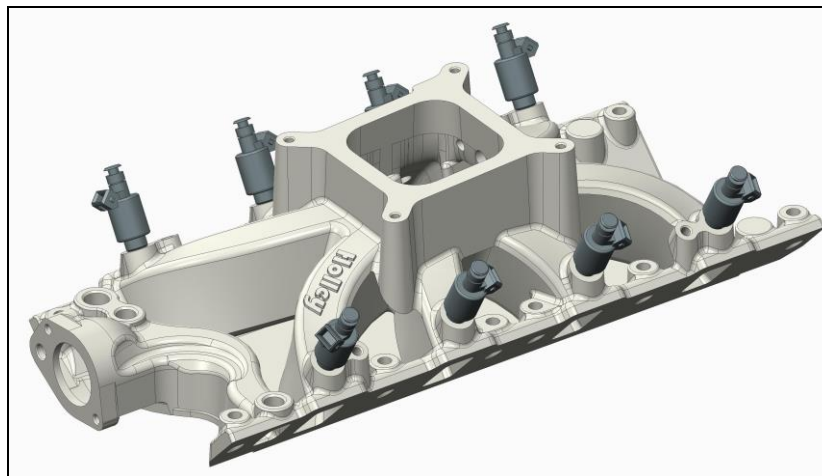

Figure 1
6. Apply a silicone lubricant to each fuel injector O-ring and insert injectors into the ports of the manifold. To avoid interference of the injector harness with the throttle cable, transmission kick-down cable or the fuel rails, orient the injectors as shown (Figure 1).